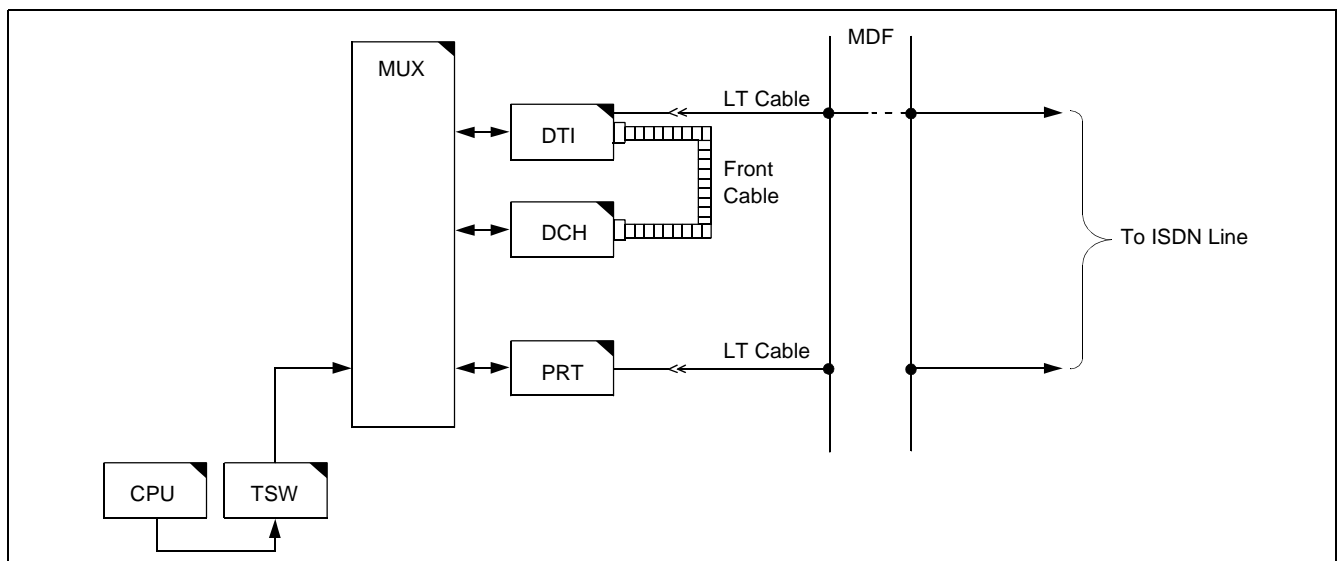

Figure 5-24 Controlling ISDN Line
- (1) Check alarm lamps on the DCH or PRT circuit card.
- (2) Refer to Figure 5-24, and check the cable connection.
The signal link controls permit normal transmission and reception of call processing information. Figure 5-24 shows the ISDN line control route.